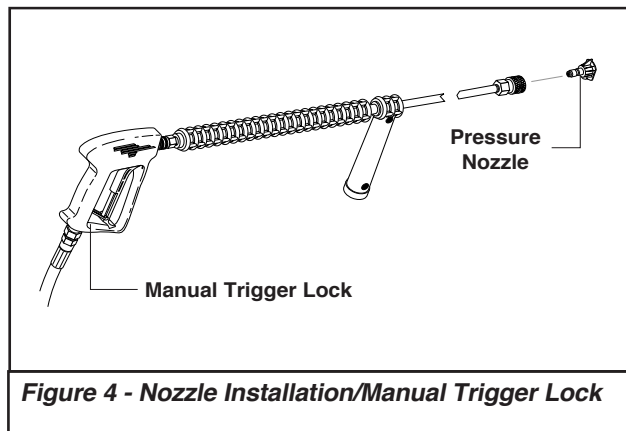

Figure 4 - Nozzle Installation/Manual Trigger Lock
7. Install the proper pressure nozzle for your cleaning needs on the end of wand, refer to **Figure 4**.
IMPORTANT: The trigger gun provided with this pressure washer is equipped with a manual trigger lock to prevent accidental operation of the trigger gun. (Refer to Figure 4) The manual trigger lock should be used whenever the trigger gun is not in use.